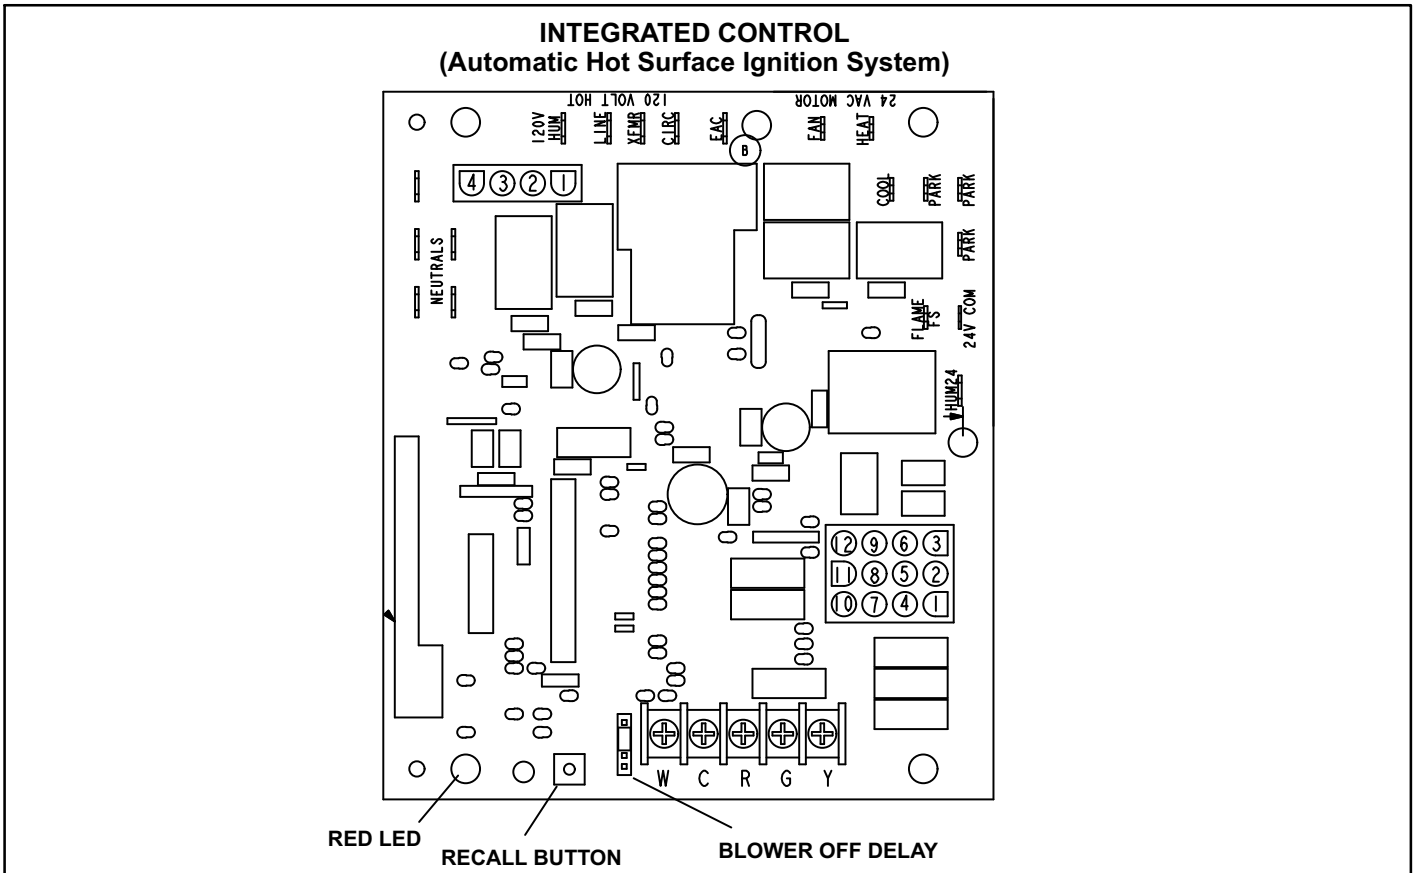
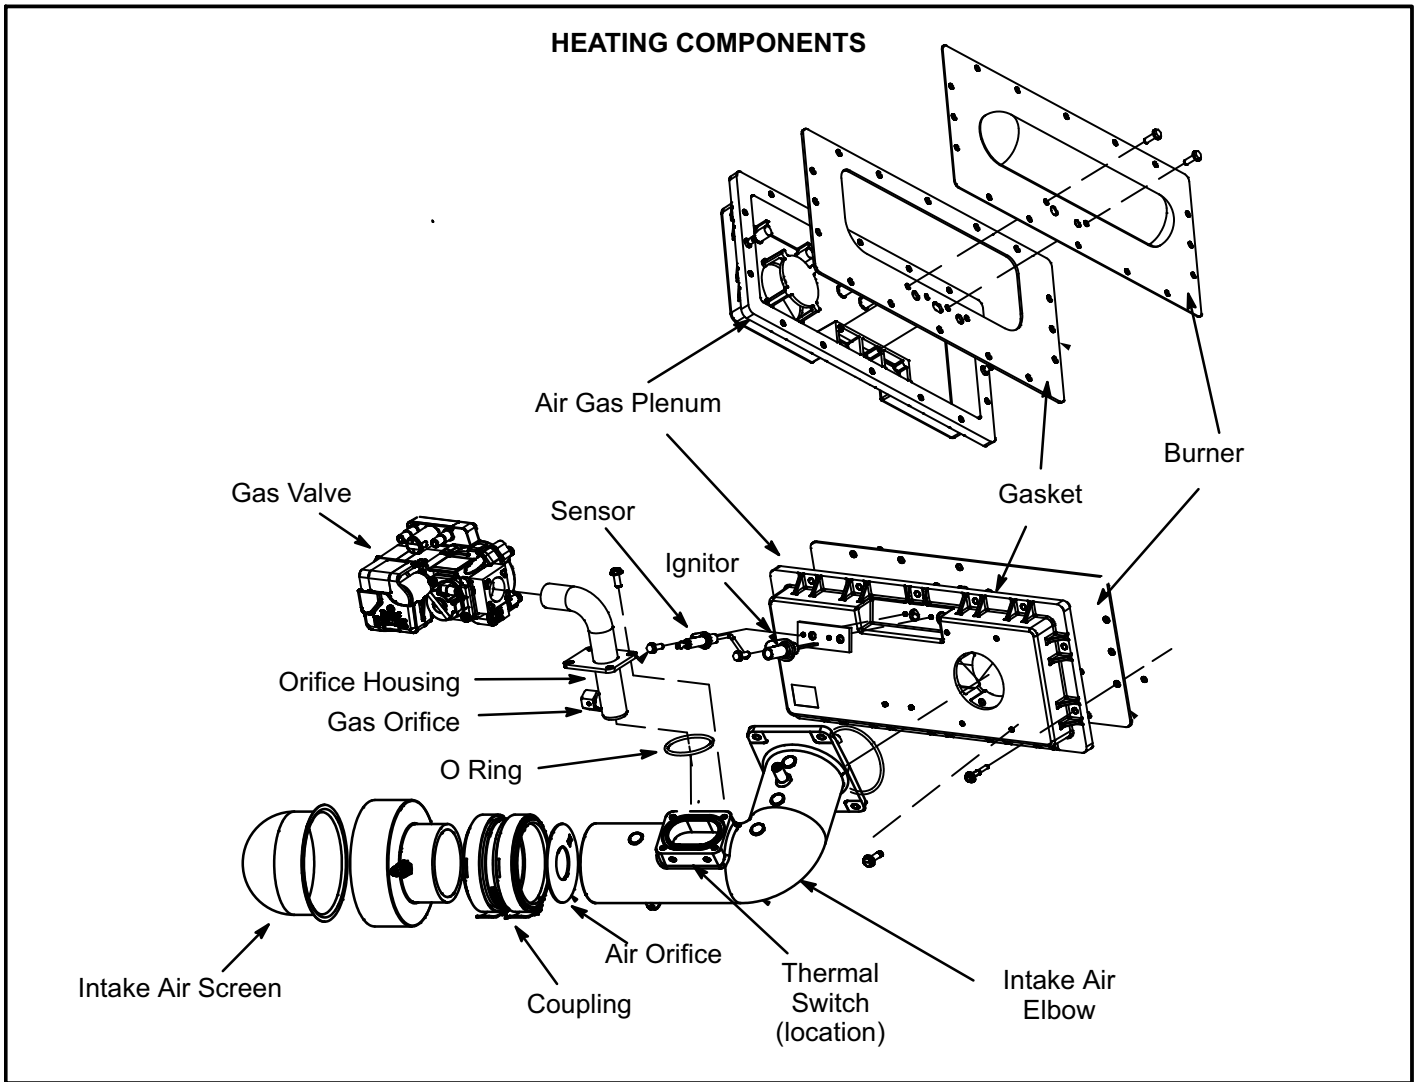

FIGURE 3
FIGURE 6
The hot surface ignition control system consisting of an integrated control (figure 3 with control terminal designations in tables 1, 2 and 3), sensor and ignitor (figure 6). The integrated control and ignitor work in combination to ensure furnace ignition and ignitor durability. The integrated control, controls all major furnace operations. The integrated control also features a RED LED for troubleshooting and two accessory terminals rated at (1) one amp. See table 4 for troubleshooting diagnostic codes. The nitride ignitor is made from a non-porous, high strength proprietary ceramic material that provides long life and trouble free maintenance.
5. Thermal Switch (Figure 6)
7. Gas Valve (Figure 6)
8. Flame Sensor (Figure 6)
Burners are factory set and require no adjustment. Always operate the unit with air gas plenum in place. The burner has one orifice located between the gas valve and the air intake assembly (Figure 6). To check or replace the orifice remove the intake air screen, coupling and intake air elbow. Using a 5/8" socket, go through the elbow and unscrew the gas orifice. The burner uses an orifice (see Table 7) that is precisely matched to the burner input. The burner can be removed for service. If burner has been removed, it is critical to replace all gaskets.
12. Ignitor (Figure 6)